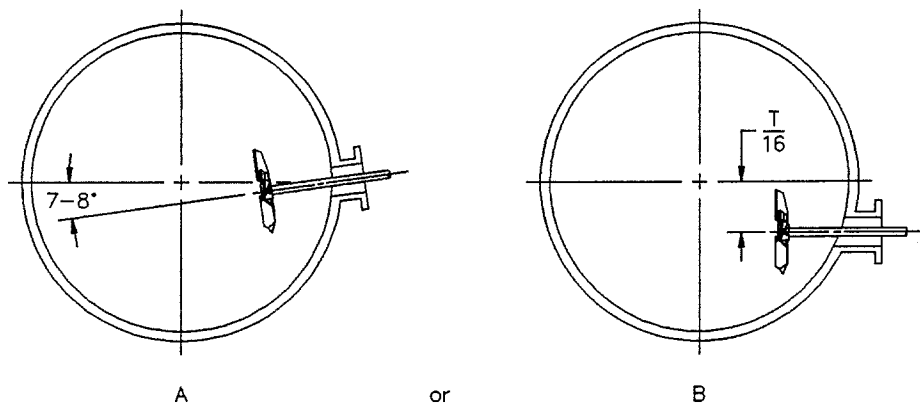

Figure 1: Nozzle Orientation
Unless otherwise specified, the agitator mounting nozzle should be oriented as shown in *Figure 1*. The shaft centerline should be located one (1) impeller diameter from the tank bottom. The agitator nozzle should be level or corrected to within 1° before proceeding.